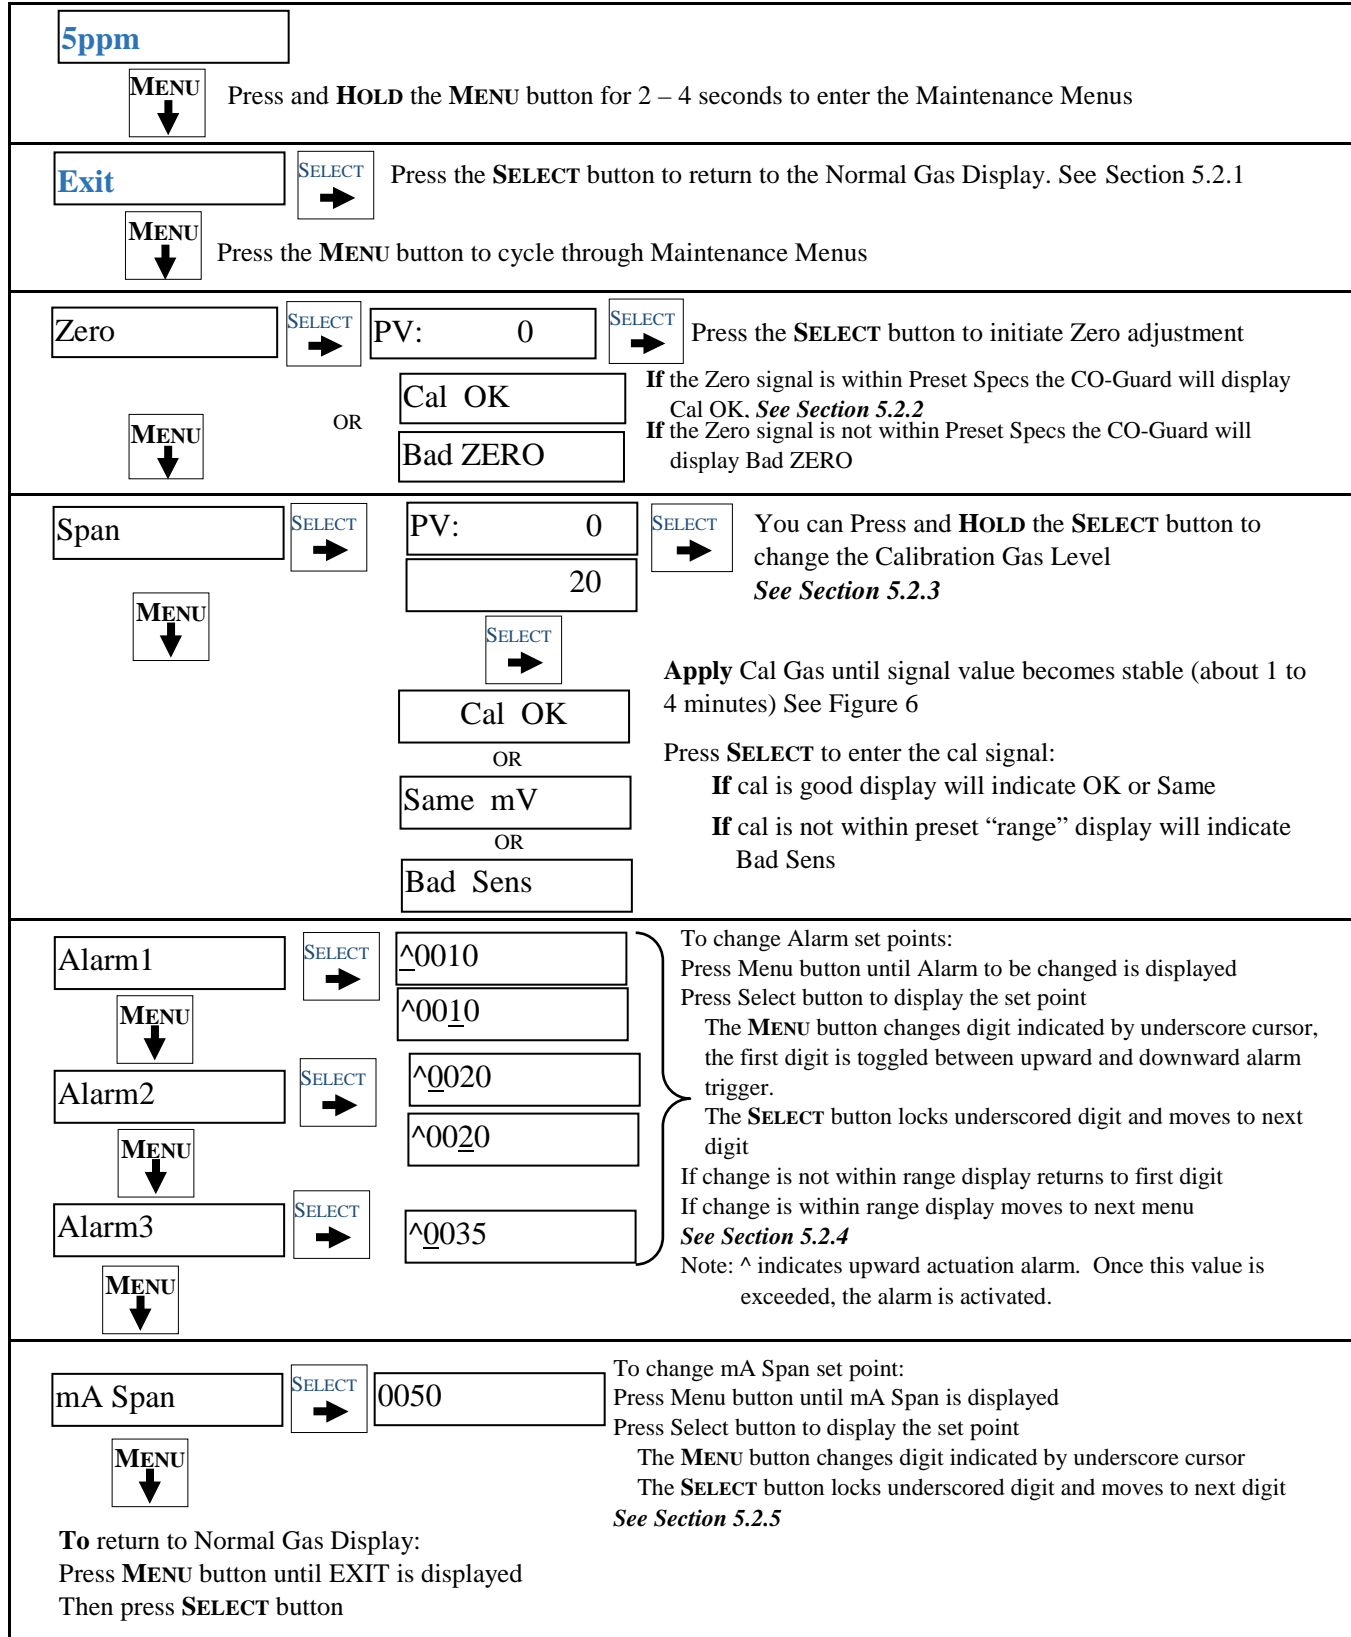
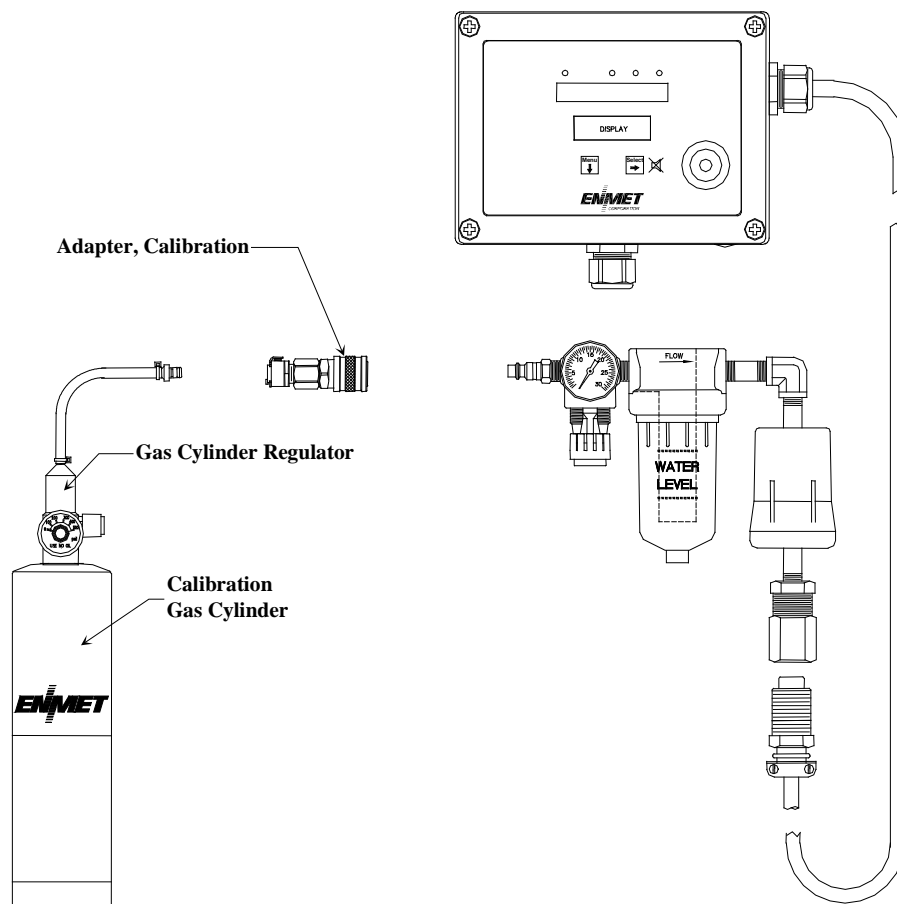

Figure 6: CO-GUARD-MOS Maintenance Menu Flow Chart
Figure 7: CO-GUARD-MOS Calibration Adapter
Table 3 indicates the maintenance menu sequence see **Figure 6** for a detailed maintenance menu flow chart.
The ZERO function must be performed by exposing the **CO-GUARD-MOS** instrument to clean fresh air. If the air at the sensor is in question, use a cylinder of 20.9% oxygen to provide a clean air reference. As shown in **Figure 7** Calibration adapter. Enter the maintenance menu by pressing and holding **MENU** button for 2 to 4 seconds. See **Figure 6, CO-GUARD-MOS** Maintenance Menu flow chart.
Enter the maintenance menu. See **Figure 6, CO-GUARD-MOS Maintenance Menu** flow chart.
2. Attach the associated calibration gas cylinder to the calibration adapter. See **Figure 7**
Apply Cal Gas until signal value becomes stable (about 1 to 4 minutes) See **Figure 7**
Enter the maintenance menu as shown in **Figure 6 CO-GUARD-MOS Maintenance Menu** flow chart.